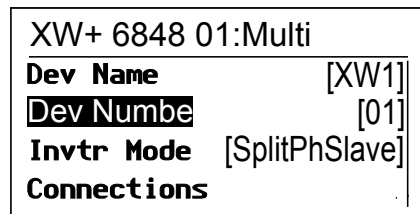

Figure 3-10 Setting a Device Number
2. On the `Multi-Unit Config` menu, select `Dev Number`. See Figure 3-10.